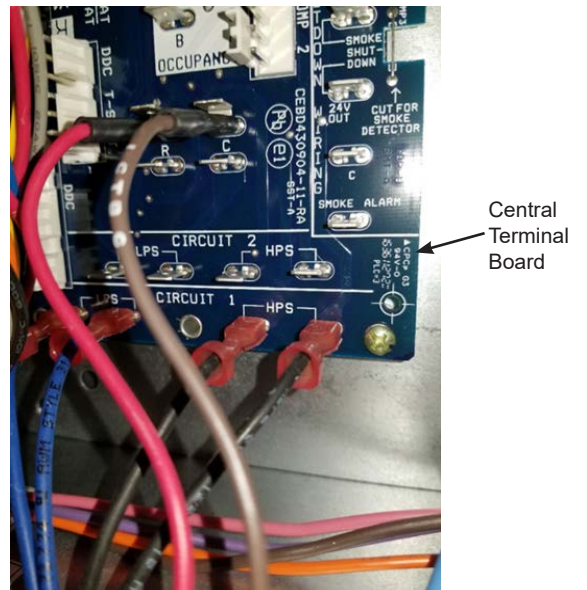

Figure 11 – Connect Red and Brown Wires to Central Terminal Board
Step 15: Connect the red and brown wires from the Jade controller harness to the CTB. See Figures 11 and 23. The red wire connects to "R" on the CTB, and the brown wire connects to "C".